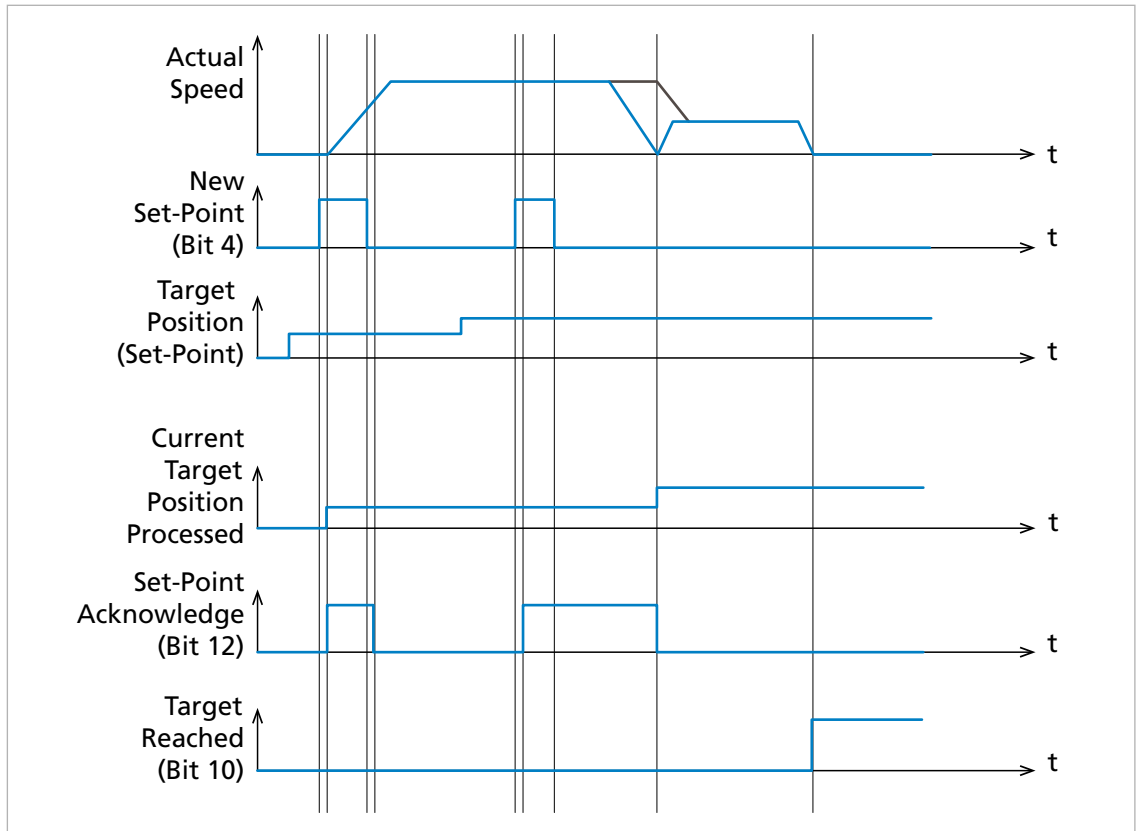

Fig. 30: Handshaking procedure for the set of set-point method
- Bit 9 of the controlword (Change on set-point) controls the dynamic behavior during the transition from one set-point to another set-point (see Fig. 30):